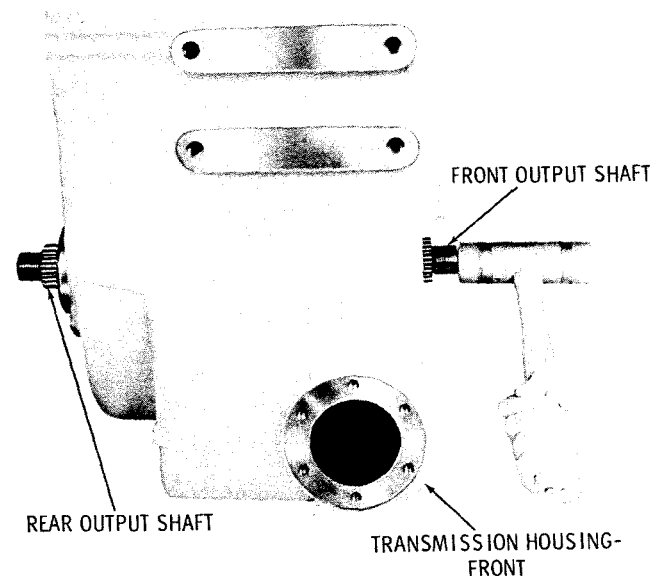
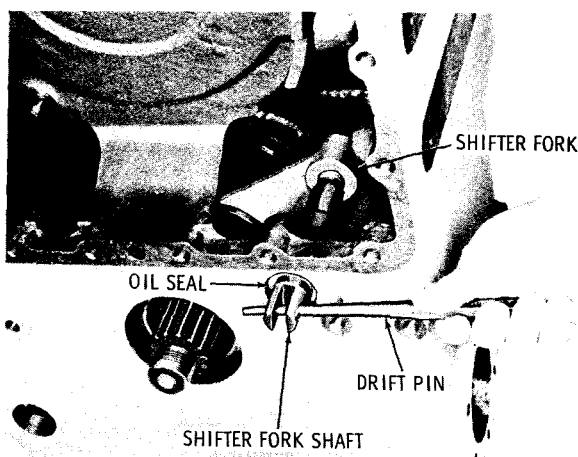
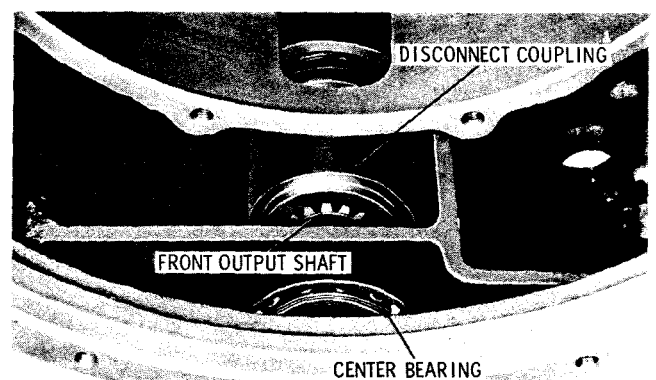

Fig. 6-19. Driving two-piece output shaft rearward for removal
Fig. 6-18. Removing disconnect shifter shaft
Fig. 6-20. Disconnect coupling, front output shaft, and center bearing
(12) Rotate shifter fork shaft counter-clockwise to remove it from the front of the transmission housing (fig. 6-18). Removal of the shifter fork shaft will allow the shifter fork to fall into the sump area. Remove the shifter fork. Remove shifter shaft oil seal 13 (A, foldout 14) only if replacement is necessary.
(13) Using a puller, remove oil seal 25 (A, foldout 14) from the rear of the transmission housing. Remove flange spacer 26, if present.
(14) Remove snapping 24 that retains the rear bearing in the housing bore.
(15) Using a soft hammer, drive the front output shaft rearward until the bearing on the rear output shaft is free from the housing bore (fig. 6-19). Remove the rear output shaft and the attached bearing and spacer as an assembly. Remove the bearing only if replacement of the bearing or spacer is necessary. Do not remove bushing 20 (A, foldout 14) from rear output shaft 21 unless replacement is necessary.
(16) Removal of the rear output shaft from the transmission housing will free transfer driven gear 18 and allow spacer 17 to fall into the sump area. Remove the transfer driven gear and remove the fallen spacer from the sump.
(17) Remove the center bearing from its bore in the housing web (fig. 6-20).
(18) Remove the front output shaft and disconnect coupling as an assembly.
(14) Apply nonhardening sealant onto the outside diameter of a new lip-type oil seal 25 (A, foldout 14). Install the new seal, spring-loaded lip first, and press it squarely into the bore until it is lightly seated against the counterbore shoulder.
(15) Position the disconnect shifter fork 15 (A, foldout 14) in the groove of the disconnect coupling. While holding the fork in position, install the shifter fork shaft, threaded end first, through the oil seal in the front of the housing and fully engage the threads in the shifter fork (fig. 6-18). Refer to paragraph 3-8c for final adjustment of the shifter fork shaft.
(16) On models having a 1-piece output shaft, install the transfer driven gear into the rear of the housing.
(17) Install the output shaft, double-splined end first, through the front of the housing and the splined hub of the transfer driven gear.
(18) Start bearing 6 (A, foldout 14), shield side last, into front bore of the housing.
(19) Install the spacer 22 onto the rear end of the output shaft. Start rear bearing 23, loading groove first, into its bore in the housing, pushing the spacer toward the transfer gear hub.
(20) Supporting the shaft at the front end surface, drive the rear bearing and spacer forward until they are firmly seated against the transfer gear hub.
(21) At the front of the transmission housing, drive the bearing rearward and seat it firmly against the shoulder in the bore. Install snapring 5 (A, foldout 14) to retain the bearing.
(22) Reseat the rear bearing, if necessary.
(23) Apply nonhardening sealant onto the outside diameter of lip-type oil seal 4 and install the seal, spring-loaded lip first into the front output bore. Press or drive the seal squarely and lightly against the counterbore in the housing.
(24) Apply nonhardening sealant onto the outside diameter of lip-type oil seal 25, and install the seal, spring-loaded lip first, into the rear output bore. Press or drive the seal squarely and lightly against the counterbore in the housing.
(25) If shifter shaft hole plug 12 was removed, install a new plug. Apply nonhardening sealant onto the outside diameter of the new plug. Install the plug, closed end first, and seat it against the shoulder in the housing bore.